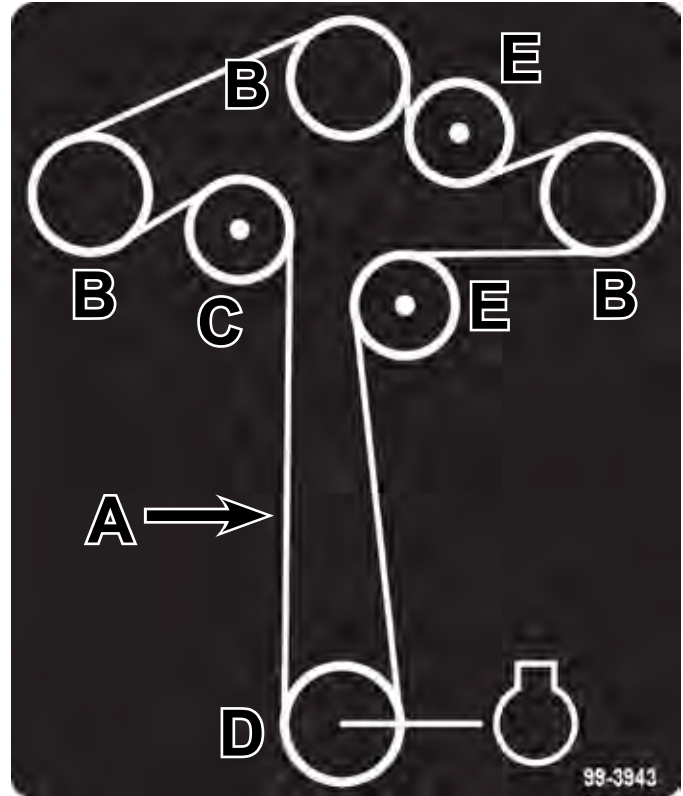

Fig. 101
6. Using a spring tool, (Toro part no. 92-5771), remove the idler spring from the deck hook to remove tension on the idler pulley and roll the belt off of the pulleys (Fig. 101).
7. Route the new belt around the engine PTO pulley and spindle pulleys (Fig. 101).
8. Using a spring tool, (Toro part no. 92-5771), install the idler spring over the deck hook and placing tension on the idler pulley and mower belt route the belt onto the idler pulley (Fig. 101).